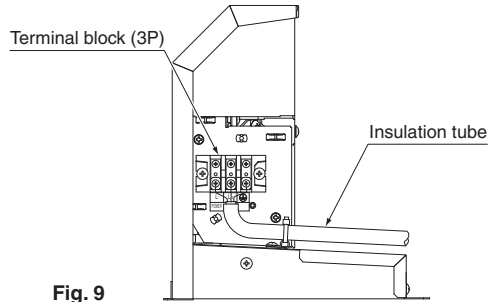

Fig. 9
**(1) Remove the front panel (upper).**
**(2) Remove the electric component box cover.**
**(3) Pass the power supply wiring and the ground wire through the top panel's high-voltage hole (requires use of conduit) and pass the remote controller wiring and transmission wiring through the top panel's low-voltage hole.**
- Pass the included insulation tube through the hole in the panel before connecting the electric wires and the ground wire to the terminal block (3P) shown in Fig. 9.